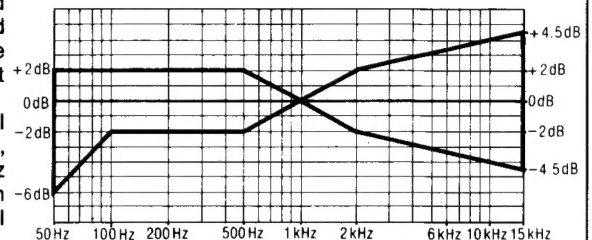

Fig. 14
8. Change test tape to CrO₂ reference blank test tape (QZZCRX), and record 1kHz, 50Hz, 100Hz, 200Hz, 500Hz, 4kHz, 8kHz, 10kHz and 15kHz signals. Then, playback the signals and check if the curve is within the limits shown in the overall frequency response chart or CrO₂ tapes (fig. 14).
9. Place UNIT into metal tape mode and change test tape to metal reference blank test tape (QZZCRZ), and record 1kHz, 50Hz, 100Hz, 200Hz, 500Hz, 4kHz, 8kHz, 10kHz, 12.5kHz and 15kHz signals. Then, playback the signals and check if the curve is within the limits shown in the overall frequency response chart for metal tapes (fig. 14).